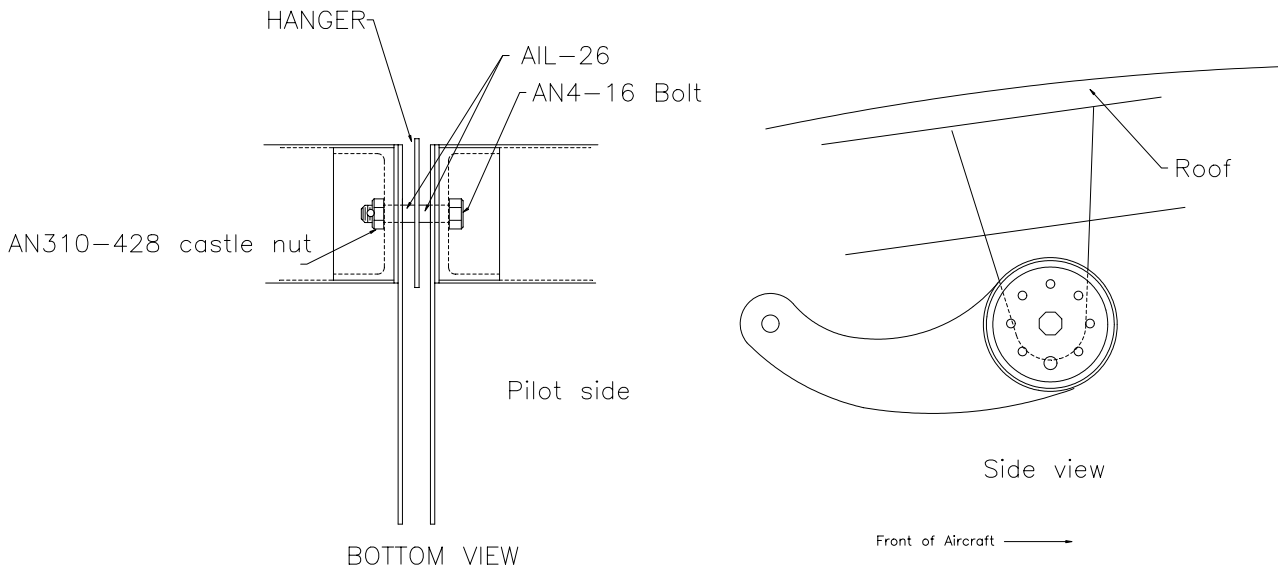

Figure 15.8.6
- 14) Bolt them together as in figure 15.8.6 with an AN4-16A bolt, two AIL-26 metal bushings and an AN310-428 castle nut. The hanger bracket should be between the two Ail-26 bushings. The control horns should move freely on the bushings.